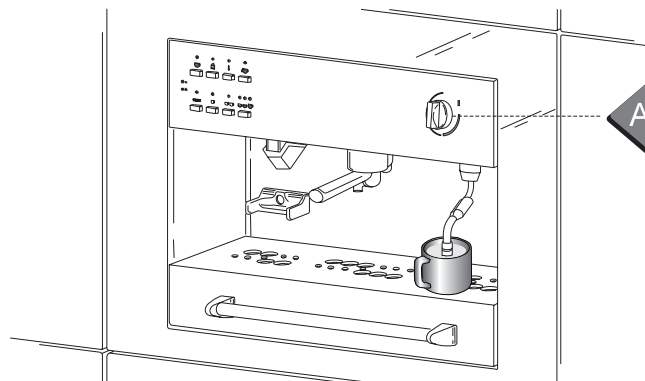

Fig. 7
- Turn knob **A** (Fig. 7) to the left to obtain hot water.
- Before placing the cup or container under the distributor, turn the knob "A" (fig.7) to the left in order to let the remaining water in the pipes coming out.
- Turn knob "A" (Fig. 7) to the left to obtain steam.